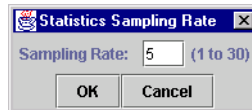

Figure 9-4. Statistics Sampling Rate Dialog Box
2. Click **Set Rate**. The **Statistics Sampling Rate** dialog box displays (see figure 9-4).